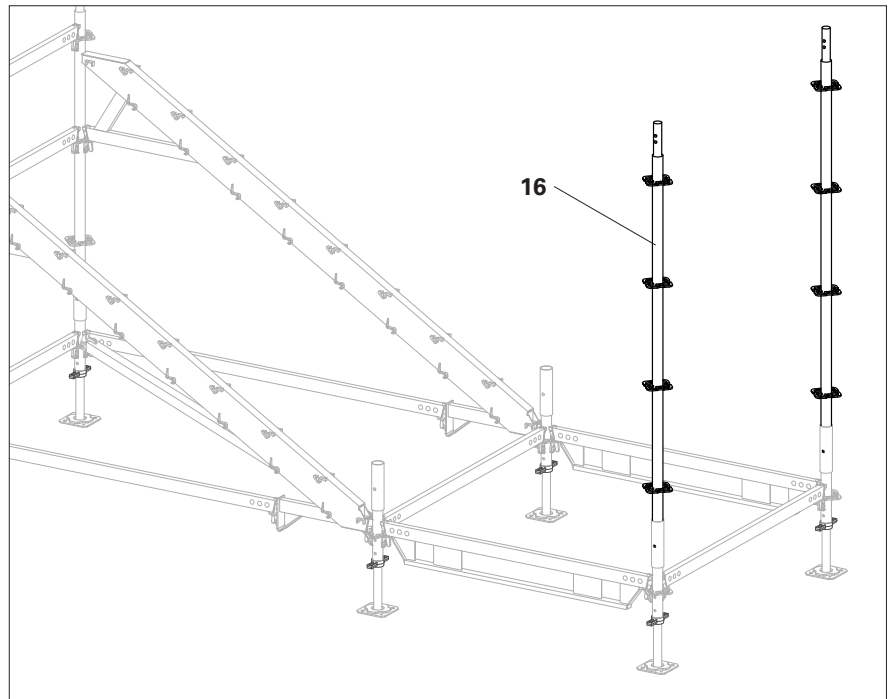

Fig. B1.04
1. Attach the Standards UVR-2 200 to the start of the landing platform. (Fig. B1.04)